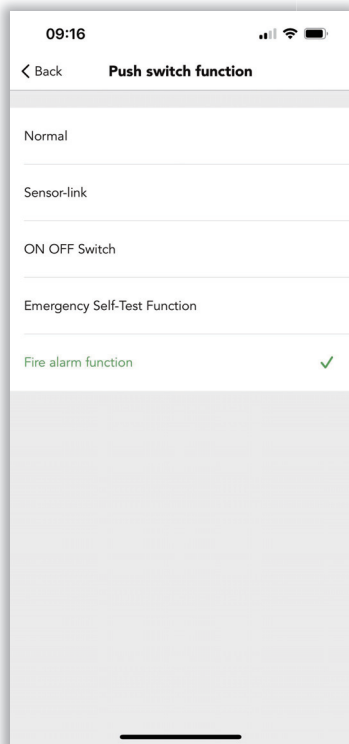

Figure 21.4.1 Firm alarm
**Example:** For larger scale projects, most of the users will have a fire alarm system in their applications. but most of the time, users cannot set the luminaries brightness and color temperature. However, users can use push switch ports to connect with their firm alarm system by Koolmesh enabled products and reset the brightness or color temperature and can even recall the scene. As long as the products have the push switch post physically . (see figure 21.4.1-21.4.2)